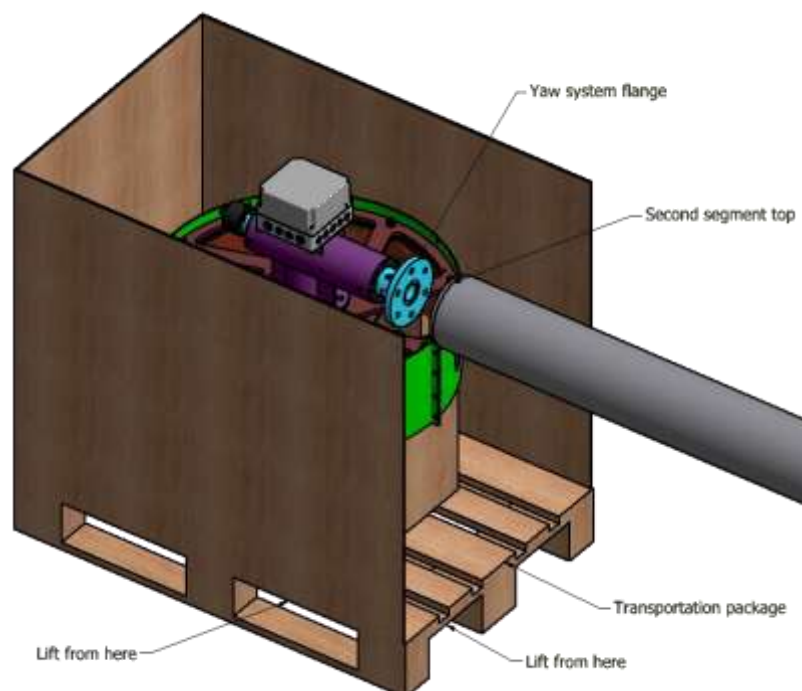

Figure 15 – Placing the generator
1. Remove lid and yaw system flange side of the generator transportation box (see Figure 15).